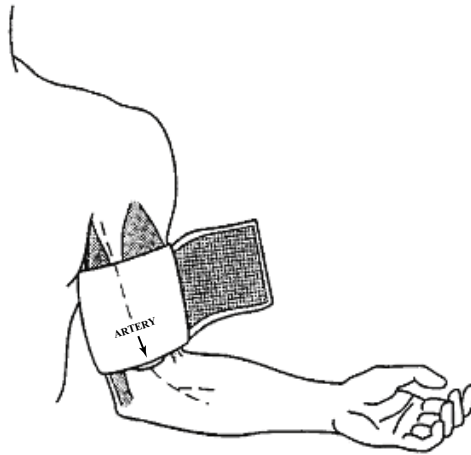

Figure 6-11 Attaching NIBP Cuff to Patient
2. Attach the NIBP cuff to the patient's arm. When wrapping the cuff around the arm, make sure that the *Artery Marker* is aligned over the brachial artery between the biceps and triceps muscles on the inside of the arm as shown in Figure 6-11.